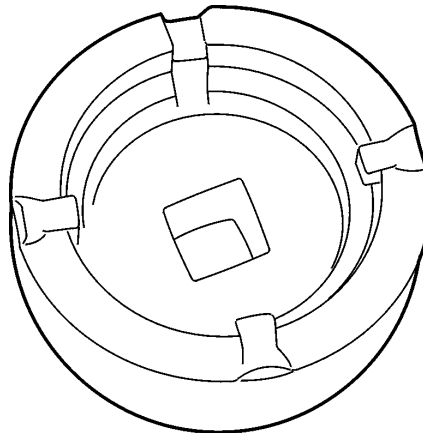

Fig. 2: 9996682, pin spanner
- The new nut should be torque-tightened to  $190 \pm 10$  Nm ( $140 \pm 8$  ft-lb) using pin spanner 9996682. (See Fig. 2: 9996682, pin spanner, page 2.)